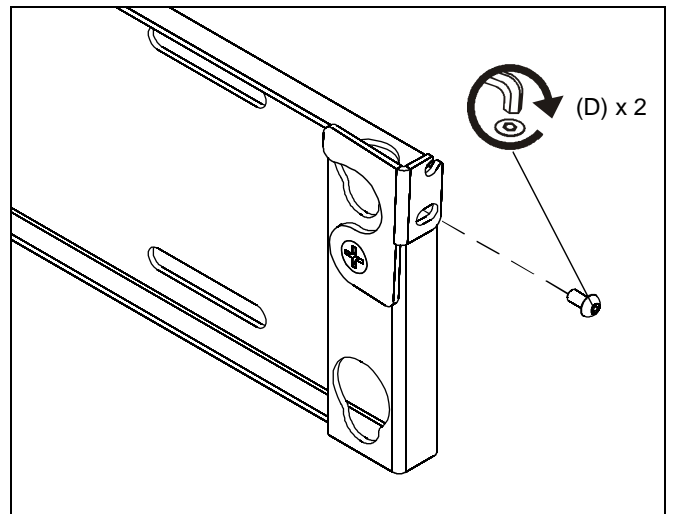

Figure 15
- (Optional) Install two #8-32 x 3/8" button head security screws (D) into the latching flags to secure speaker to speaker bracket. (See Figure 15)